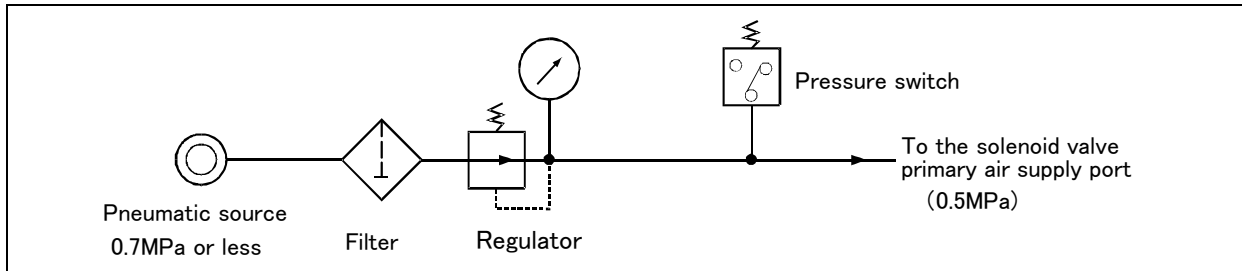

Fig.2-12 : Air supply circuit example for the hand
- (1) Make sure that a surge voltage protection circuit such as a diode is connected to the solenoid coil in parallel.
- (2) When the factory pneumatic pressure drops, as a result of the hand clamp strength weakening, there can be damage to the work. To prevent it, install a pressure switch to the source of the air as shown in Fig. 2-12 and use the circuit described so that the robot stops when pressure drops. Use a hand with a spring-pressure clamp, or a mechanical lock-type hand, that can be used in cases where the pressure switch becomes damaged.
- (3) The optional hand and solenoid valve are of an oilless type. If they are used, don't use any lubricator.
- (4) If the air supply temperature (primary piping) used for the tool etc. is lower than ambient air temperature, the dew condensation may occur on the coupling or the hose surface.